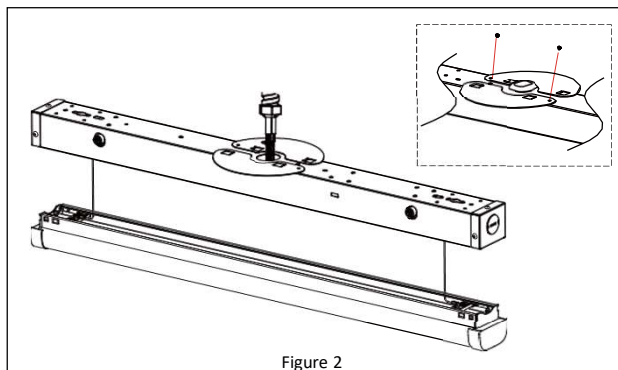

Figure 2
1. Install the J-Box adapter to the back of the fixture. *See Figure 2.*